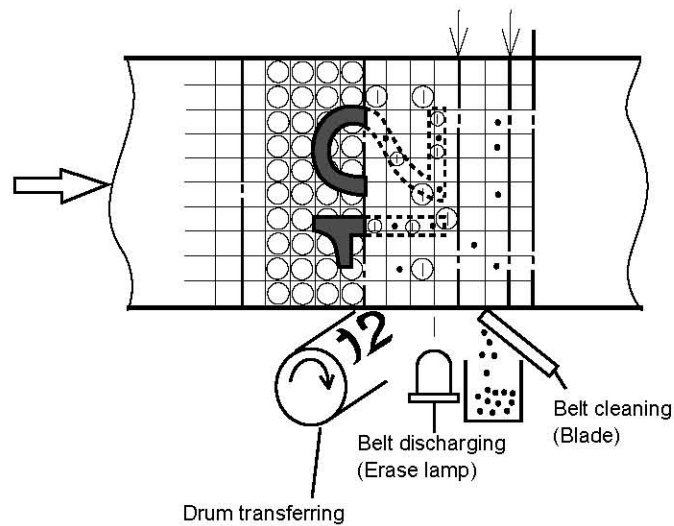

Fig. 4-19
- (2) Process of Discharging (Refer to Fig. 4-19.)